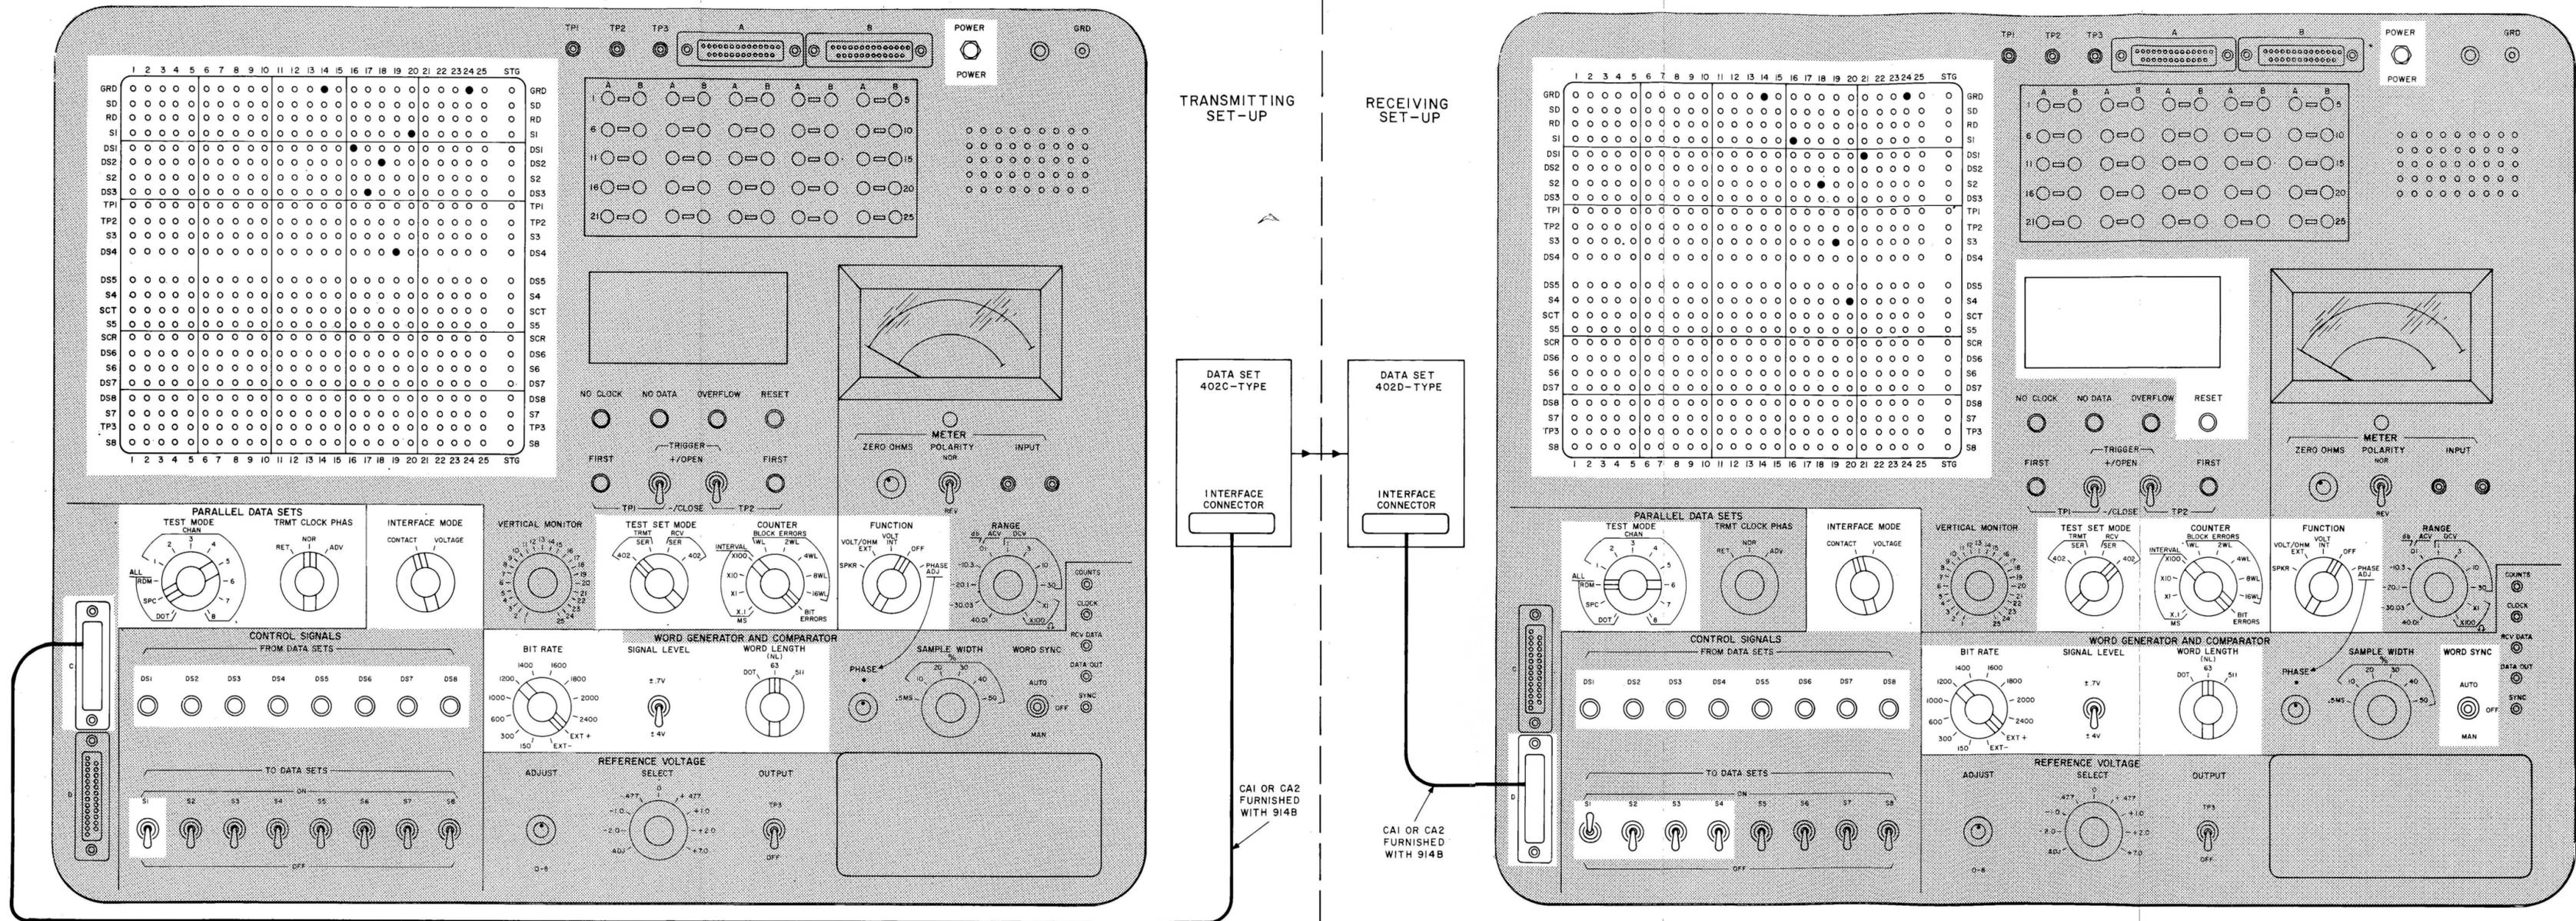

Fig. 4—Dynamic Test for End-to-DTC or End-to-End Test Using 914B Data Test Set—Test Connection Diagram
1	Establish test connections and set switches for the transmitting setup shown in Fig. 4.
2	Program the 914B matrix using seven shorting pins (red) as shown in Fig. 4.
3.15 Figure 4 shows the type of overall arrangement to be made when performing an end-to-end test. The attendant at the transmit station establishes communications between the two stations by using the telephone portion of the data set,
- (1) Establish test connections and set switches as shown in Fig. 4.
- (2) Program the 914B matrix as shown in Fig. 4.
- (3) Operate POWER switch on 914B DTS.
- (4) Establish communications as explained in 3.15.
- (5) Depress DATA key on Data Set 402C. Set S1 switch on 914B to ON.
- (6) Five seconds after DATA key is depressed (or DS1 on 914B lights, if reverse channel is used), set TEST MODE switch to ALL RDM.
- (7) Transmit data for 6 minutes.
- (8) After 6-minute transmission, set S1 switch to OFF. Set TEST MODE switch to ALL SPC and TRMT CLOCK PHASE switch to ADV.
- (9) When DS2 lights (indicates completion of first error test), set S1 switch to ON. After 5 seconds, set TEST MODE switch to ALL RDM.
- (10) Transmit data for 6 minutes (second error test).
- (11) After 6-minute transmission, set S1 switch to OFF. Set TEST MODE switch to ALL SPC and TRMT CLOCK PHASE switch to RET.
- (12) When DS4 lights, set S1 switch to ON. After 5 seconds, set TEST MODE switch to ALL RDM.
- (5) Depress data set DATA key (goes into the data mode). Set S4 switch on 914B to ON.
- (6) Note when DS1 on 914B DTS lights, momentarily operate WORD SYNC switch to MAN, and momentarily operate display counter RESET switch.
- (7) Time data reception 5 minutes and observe and record any errors displayed on 914B counter.
- (8) When DS1 extinguishes, set S2 switch to ON and S4 switch to OFF. (This sends answer-back A to the transmitting station.)
- (9) Set S4 switch to ON and S2 switch to OFF. Note when DS1 lights, momentarily operate WORD SYNC switch to MAN, and momentarily operate counter display RESET switch.
- (10) Time data reception 5 minutes. Observe and record any errors displayed on 914B counter.
- (11) When DS1 extinguishes, set S3 switch to ON and S4 switch to OFF. (This sends answer-back B to the transmitting station.)
- (12) Set S4 switch to ON and S3 switch to OFF. When DS1 lights, momentarily operate WORD SYNC switch to MAN, and momentarily operate counter display RESET switch.